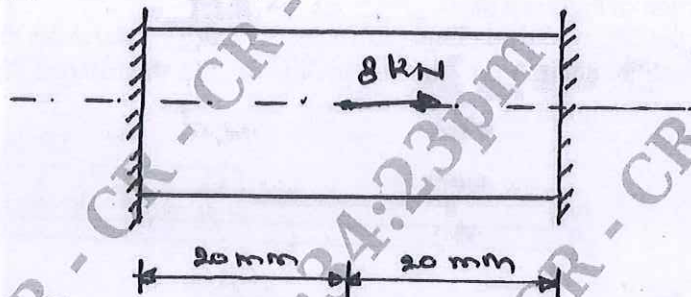

Fig.Q2(b)
- b. Use Rayleigh-Ritz method to find the stress and displacement at loading point of a bar shown in Fig.Q2(b). Take $E = 70 \text{ GPa}$, $A = 100 \text{ mm}^2$.